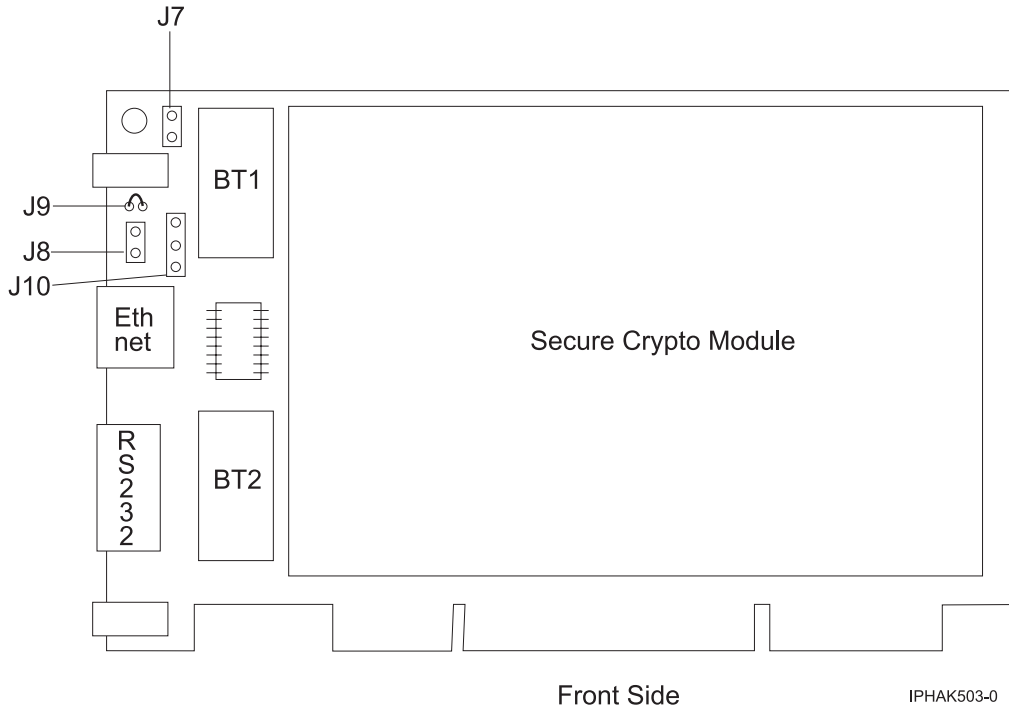

Figure 55. Front side of the adapter
6. Insert one of the new batteries into the battery tray provided with the kit. Align the + on the battery with the + on the battery tray (the end with the red wire). Connect the tray wires to the J10 connector located near the RS-232 serial port, as shown in Figure 55 on page 174. The connector is polarized to ensure a correct connection.